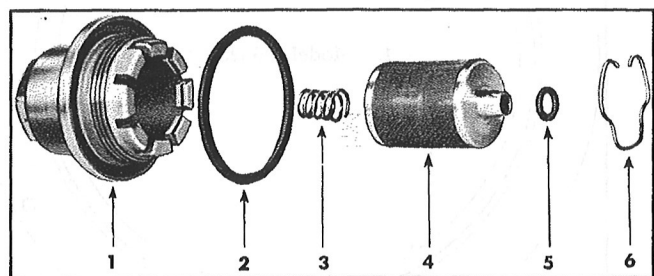

Figure 228C—Exploded View of Oil Filter
*Step 2.*—Release the snap ring from the filter assembly and remove the filter cartridge and spring. See Figure 228C—6.
*Step 3.*—Remove the small seal from the end of the filter cartridge and the large seal from the filter cap. See Figure 228C—2, 5.
*Step 2.*—Place a new seal in the groove of the face of the filter cap. See Figure 228C—1, 2.
*Step 3.*—Place a new seal on the extension at the end of the filter cartridge and insert the spring in the other end of the cartridge, entering the large end of the spring into the cartridge. See Figure 228C—3, 4, 5.